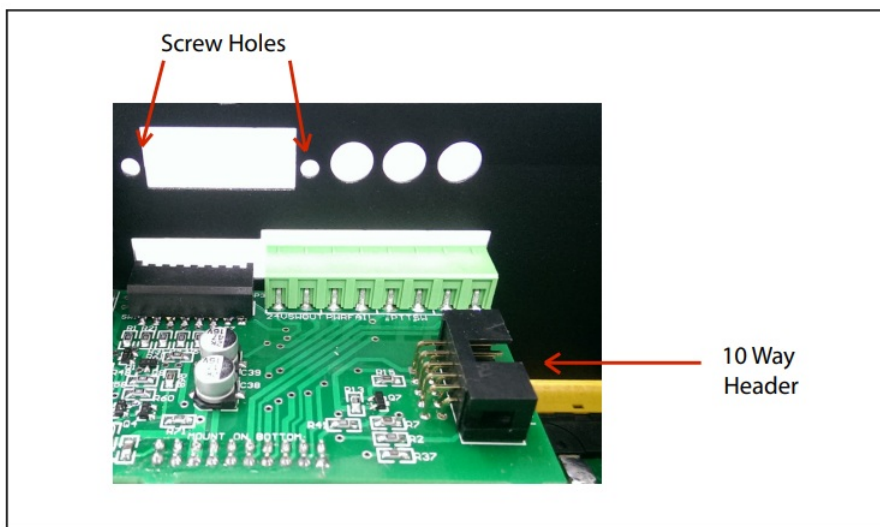

Fig 2.5A
4. Connect ribbon cable header to the 10 way header on the rear board of mixer (see fig 2.5A).